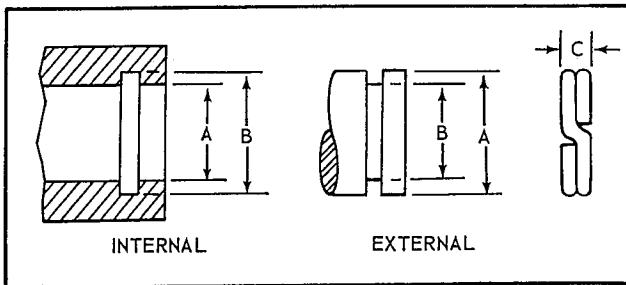

Fig. 174 — How Snap Rings Are Measured
Typical measurements are bore diameter (A, Fig. 174), groove diameter (B), and ring width (C). Note that "A" is the *inside* diameter and "B" the *outside* diameter of internal snap rings. In the case of external rings, "A" is the *outside* diameter and "B" the *inside* diameter.